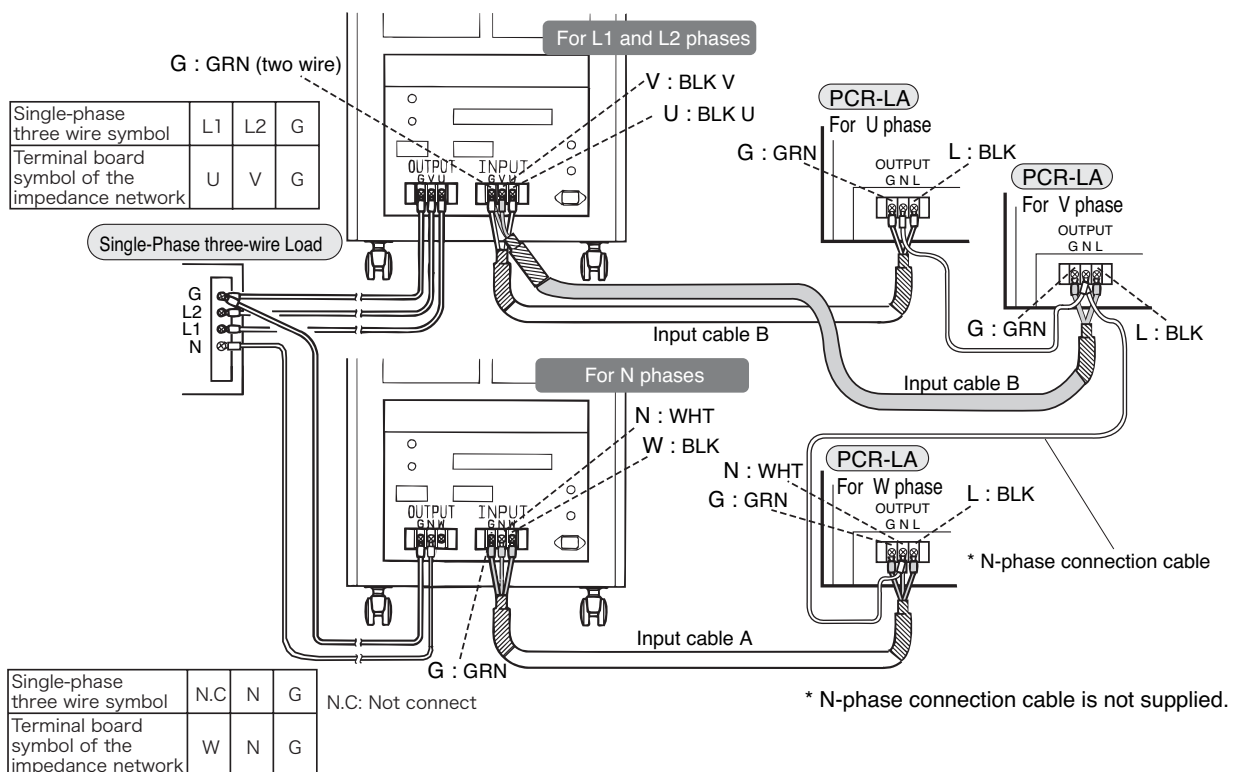

Fig. 5-6 Single-phase Three-wire Load Wiring Diagram
5. According to Fig. 5-6, use one input cable A and one input cable B to connect the INPUT terminal board of the impedance network to the OUTPUT terminal board of two PCR-LAs.
6. Securely connect the output cable, which goes to the load, to the impedance network's OUTPUT terminal board, as shown in Fig. 5-6.